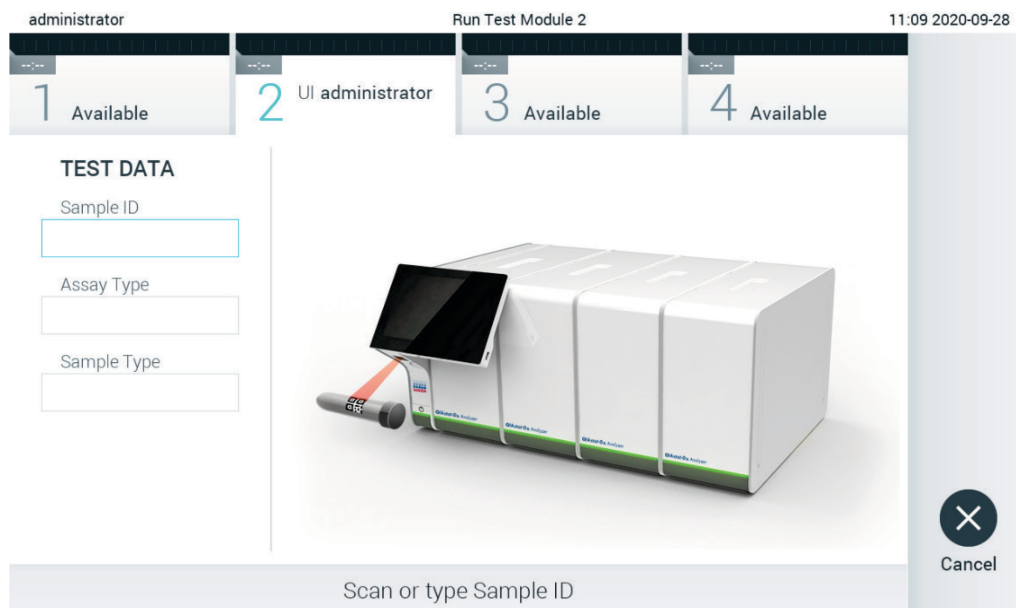

Figure 75. Scanning the sample ID bar code.
2. When prompted, scan the sample ID bar code using the bar code reader that is integrated into the Operational Module (Figure 75).